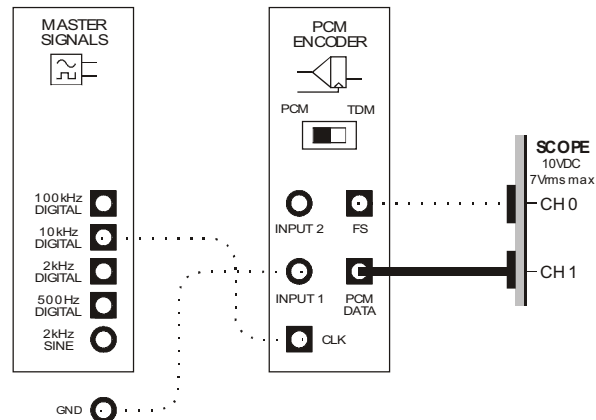

Figure 5
16. Connect the scope's Channel 1 input to the PCM Encoder module's output as shown in Figure 5 below.